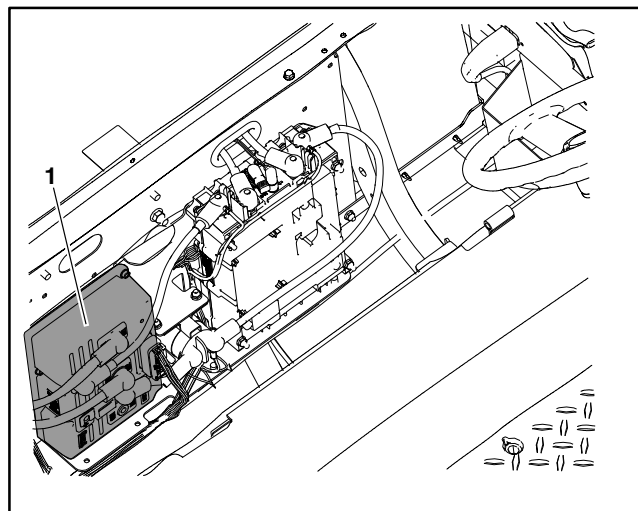

Figure 28
The SC2: traction controller is secured to the seat base rear panel (Fig. 28). The controller uses inputs from several vehicle components to accurately control vehicle speed, direction (forward and reverse) and regenerative braking. Controller inputs include key switch, direction selector switch (forward/reverse), accelerator pedal, mode switch, traction motor thermistor (temperature), traction motor encoder (speed sensor) and parking brake. A single wire harness connection and five (5) cables are used to connect the controller to the vehicle electrical system. The traction controller is also connected to the CAN bus.